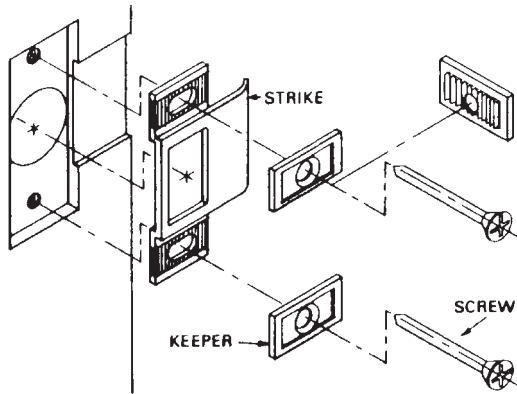
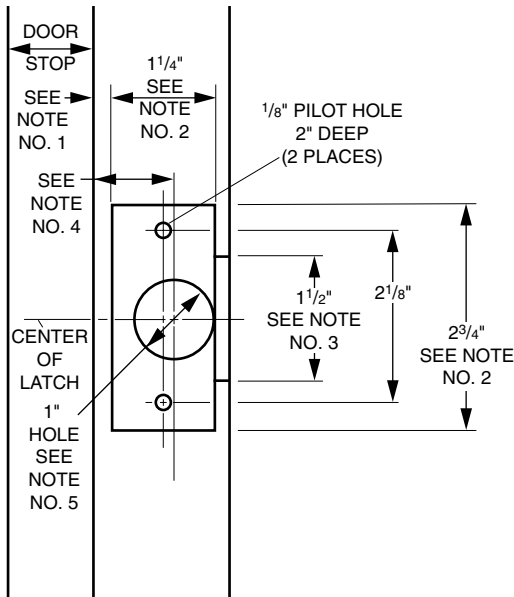

Figure 13.54 Exploded view illustrating parts relationship for the complete installation of the Adjust-A-Strike. (M.A.G. Engineering and Mfg., Inc.)
Figure 13.55 Jamb preparation for the Adjust-A-Strike models 450 and 451. (M.A.G. Engineering and Mfg., Inc.)
3. If desired by the customer, an Adjust-A-Strike may be installed with the unit. Several models are available. Figure 13.54 refers to the models 450/451: 1¼-inch × 2¾-inch lip and deadbolt strike jamb preparation. (Figure 13.55 provides positioning of parts and the strike installation completed for all models described here.)